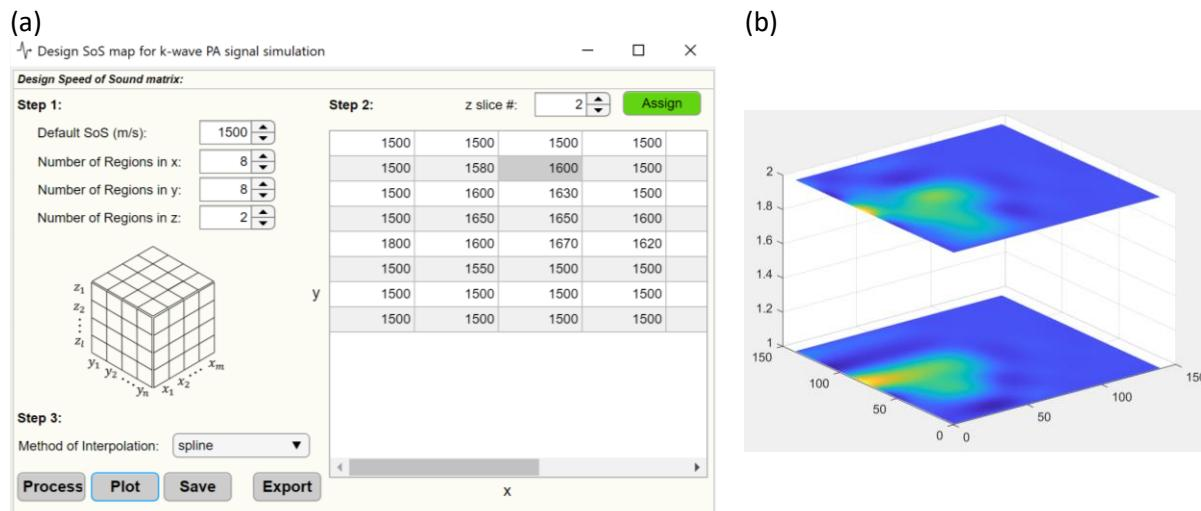

Figure 3-5: a) Design a speed of sound map for a 3D scenario. b) Plotting the processed result.
- **Design a matrix** – opens a graphical interface for creating the speed of sound maps (Figure 3-5). The dimension of the matrix will match the dimensionality of the computational grid (i.e. 2D vs 3D). The interface allows the user to divide the entire computational grid (defined previously) into several regions. The data from each region will appear in a table that allows change the speed of sound value manually. This interface consists of three steps: